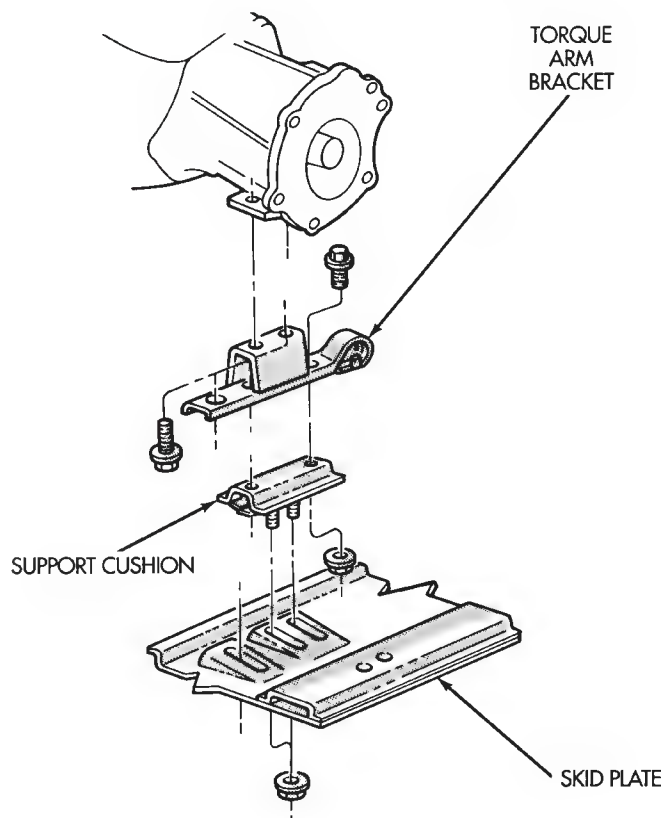

Fig. 13 Rear Mount—YJ Vehicles (Automatic Transmission)
- (a) Remove the bolts and nuts holding the support cushion to the torque arm bracket (Fig 13). Remove the support cushion.
- (b) Remove the bolts holding the torque arm bracket to the transmission (Fig. 13). Remove the torque arm bracket.